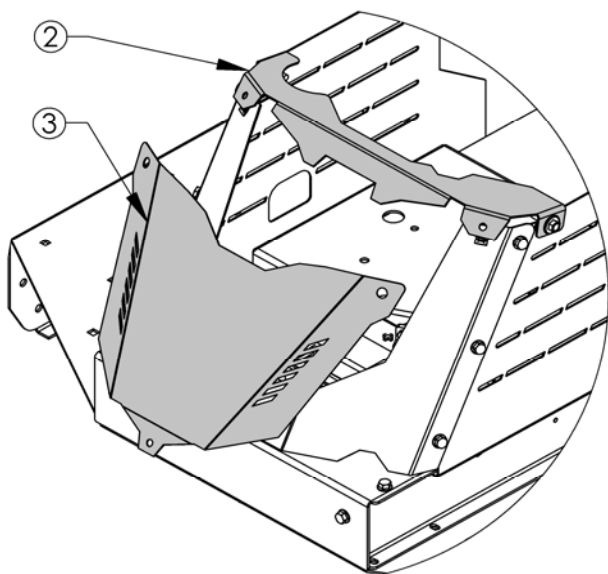

FIGURE 15.2
- Tilt top Cover ② slightly upward and slide Battery Cover ③ down & out to remove. **Figure 15.2**